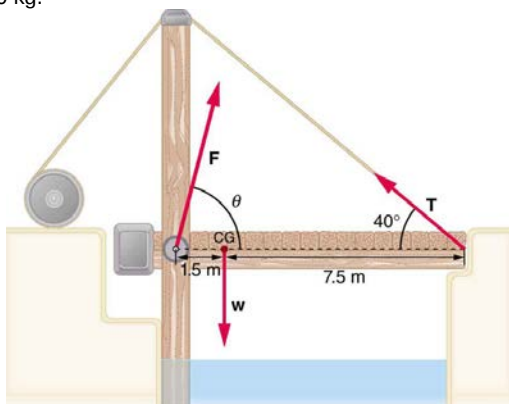

Figure 9.35 A small drawbridge, showing the forces on the hinges (F), its weight (w), and the tension in its wires (T).
12. Suppose the weight of the drawbridge in **Figure 9.35** is supported entirely by its hinges and the opposite shore, so that its cables are slack. (a) What fraction of the weight is supported by the opposite shore if the point of support is directly beneath the cable attachments? (b) What is the direction and magnitude of the force the hinges exert on the bridge under these circumstances? The mass of the bridge is 2500 kg.
13. Suppose a 900-kg car is on the bridge in **Figure 9.35** with its center of mass halfway between the hinges and the cable attachments. (The bridge is supported by the cables and hinges only.) (a) Find the force in the cables. (b) Find the direction and magnitude of the force exerted by the hinges on the bridge.